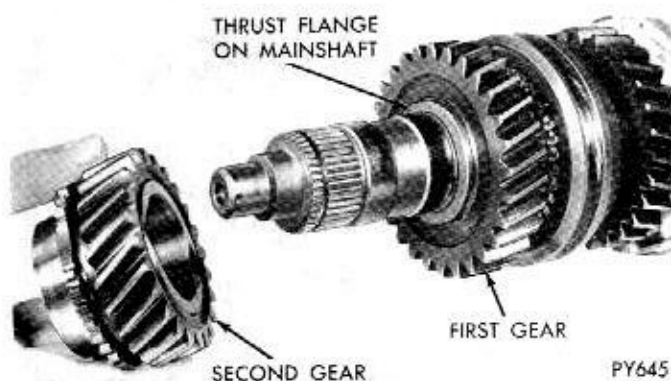

Fig. 16—2nd Gear—Removal or Installation
(21) Place second gear over front of mainshaft with thrust surface against flange (Fig. 16).